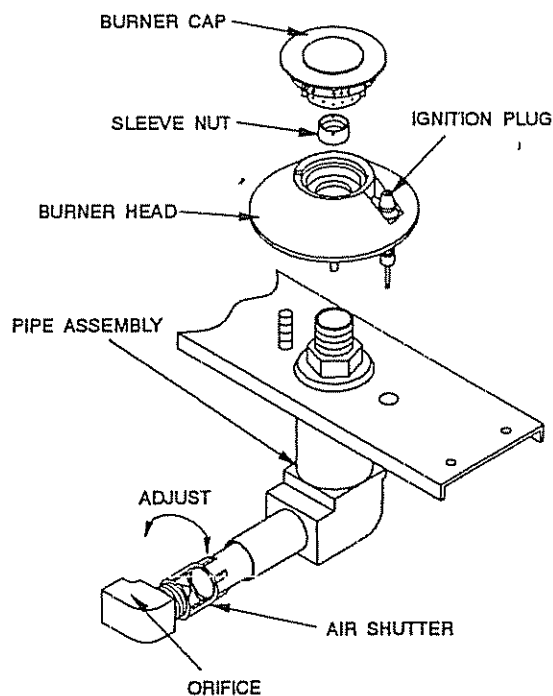

Figure 12. Burner Flame Adjustments
3. With the cooktop removed, replace the ignition plug wire, the burner base, and the burner cap of each burner assembly securely onto the burner pipe assembly. See figure 12.